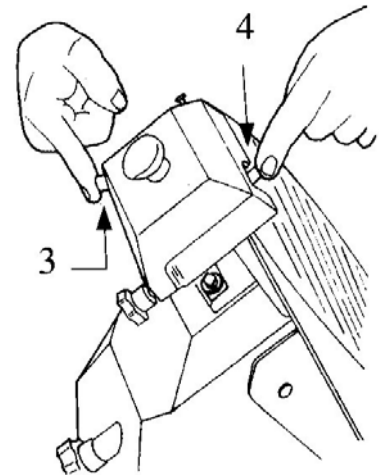

Fig. 13
4. (Fig. 13) press the button (3), allow the blade to turn in contact with the wheel for about 30/40 seconds so that a slight burr forms on the edge of the blade;
5. (Fig. 13) press both buttons (3 and 4) at the same time for 3/4 seconds, then release them both at the same time;